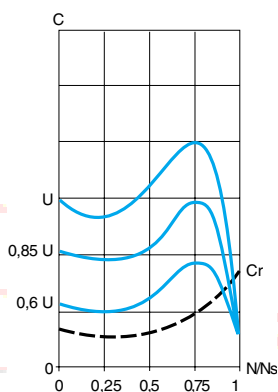

Figure 2
■ Figure 2 shows the torque/speed characteristic of a squirrel cage motor in relation to the supply voltage.